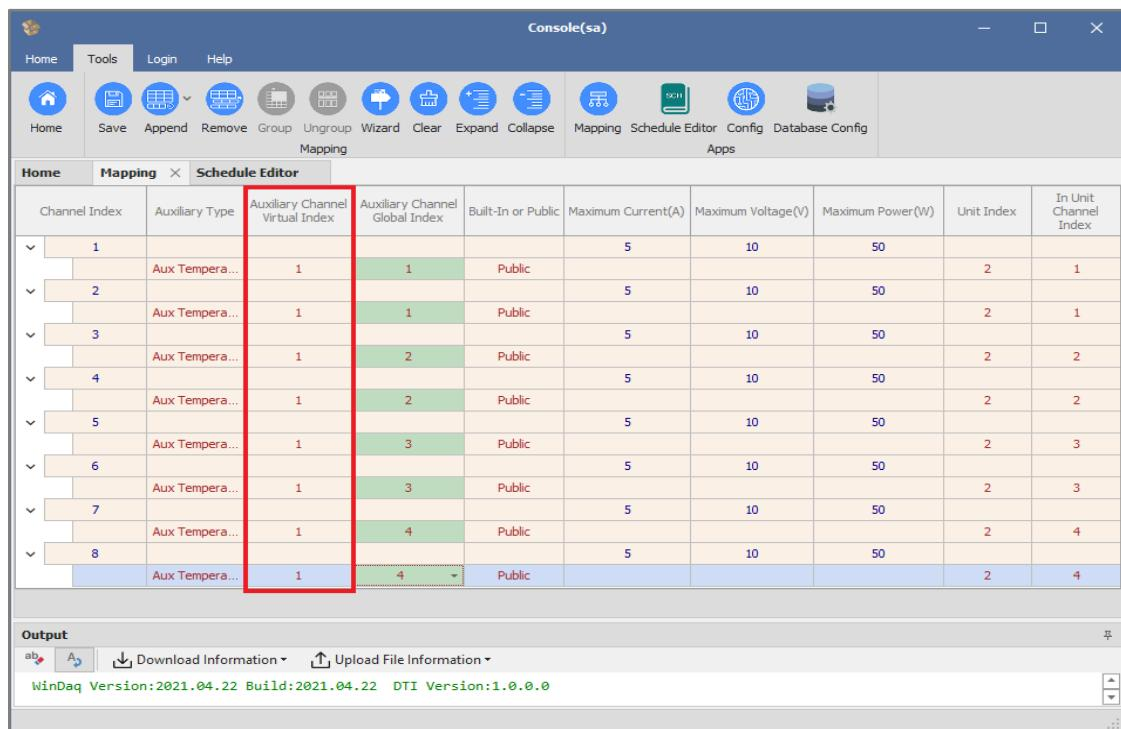

Figure 19-46 Two IV Channel Diagrams of a Temperature Control chamber
- 2) Map the two IV channels to a temperature control chamber (Figure 19-46).
Please note that in Figure 19-46, the auxiliary channel virtual index highlighted with a red box is related to the term "AV_T [1]" described in the previous section, which discusses how to create a Schedule to control MZTC.